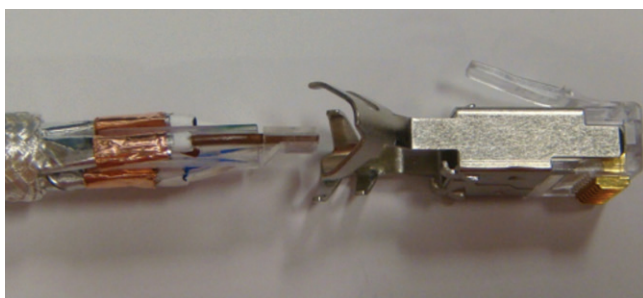

Figure 23: Inserting cable into connector plug body
- Insert the cable into the connector plug body with the flat side of the load bar aligning with the top of the connector body (Figure 23).